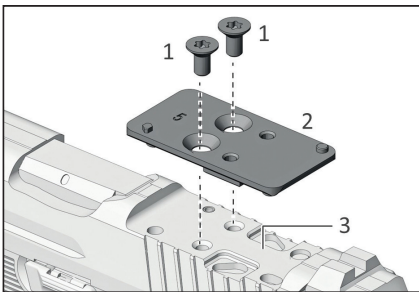

Figure 18 – Tighten screws
4. Insert screws into adapter plate (Fig. 18)